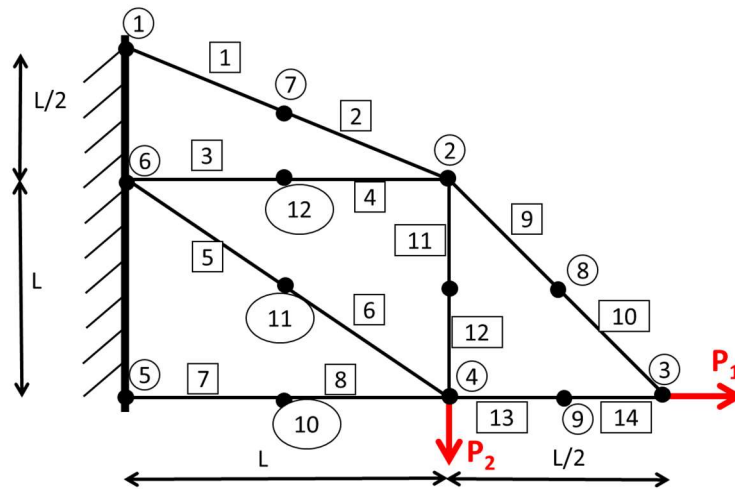

Figure 2: structure with each member halved
4. In the report, answer the following question: would it make a difference if we model each truss member using two equal truss members in series (same cross sectional area and material), as shown in Figure 2? (Please answer this question using reasoning, no Abaqus or Python/Matlab output allowed in your answer)